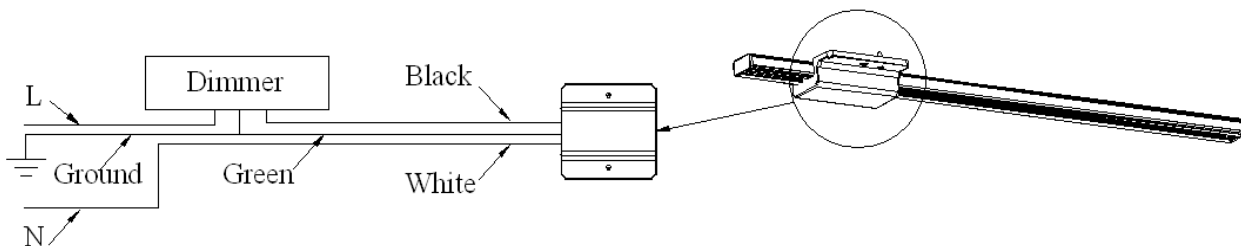

Fig. 6
**NOTE: ASSEMBLY THE TRIAC DIMMER (REFER TO Fig. 6)**